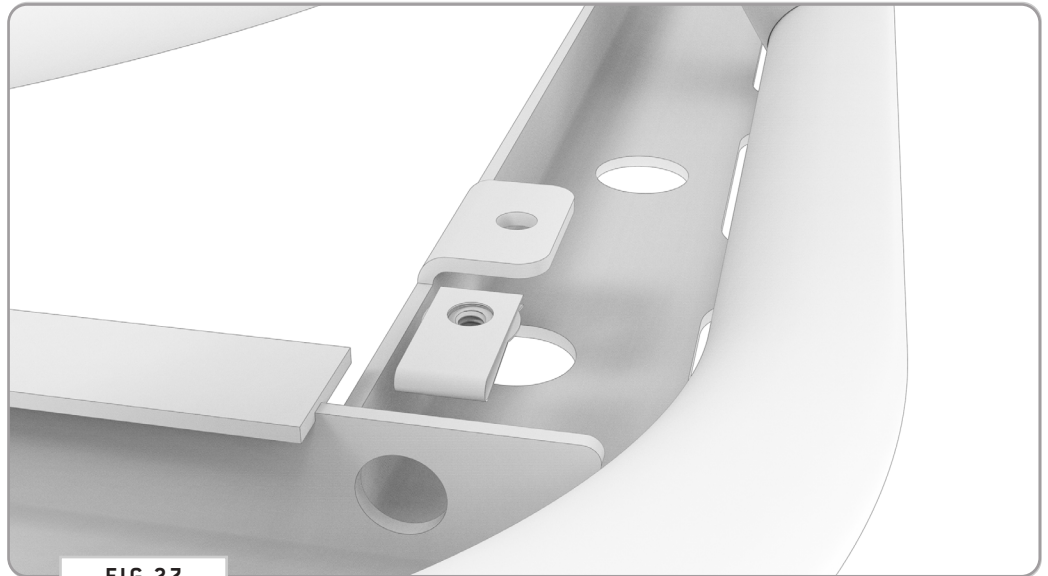

FIG 27
**NOTE** - The flat side of the **Clip Nut** should be facing upwards (FIG 27)